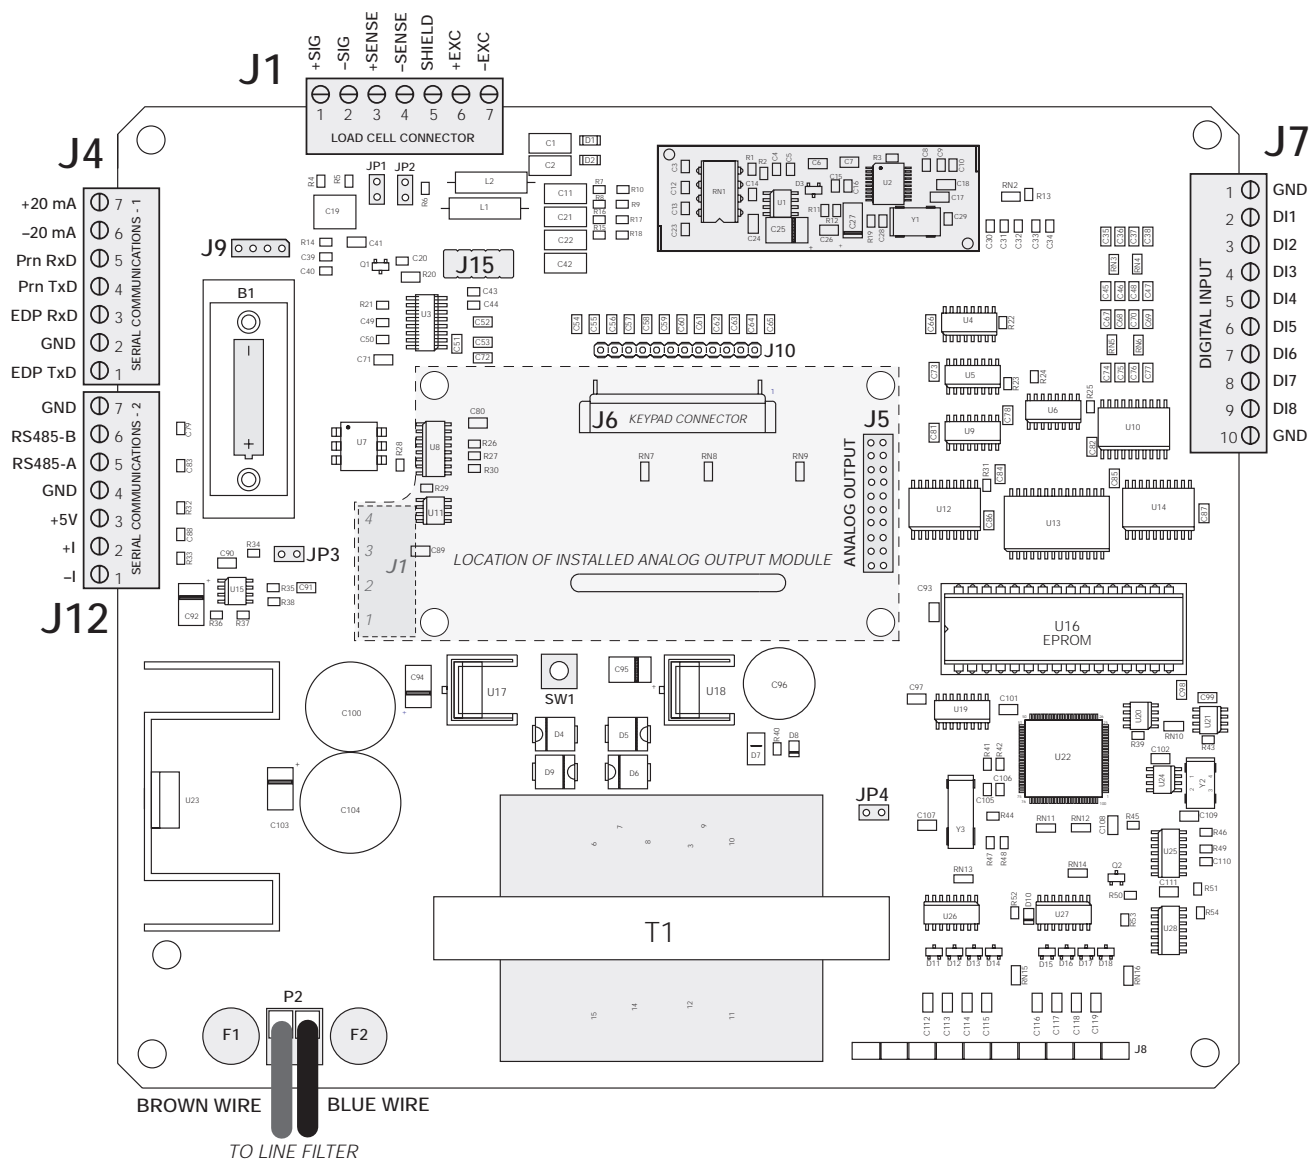

Figure 2-1. IQ plus 510 CPU and Power Supply Board, Rev. 2
To attach cable from a load cell or junction box, remove connector J1 from the board. The connector plugs into a header on the board (see Figure 2-1).
Wire the load cell cable from the load cell or junction box to connector J1 as shown in Table 2-1. If using 6-wire load cell cable (with sense wires), remove jumpers JP1 and JP2 before reinstalling connector J1 (see Figure 2-1). For 4-wire installation, leave jumpers JP1 and JP2 on.
Mount the analog output module on its standoffs in the location shown in Figure 2-1 on page 4 and plug the module input into connector J5 on the IQ plus 510 board. Connect output cable to the analog output module as shown in Table 2-4, then reassemble the enclosure (Section 2.5).
2. Unplug connectors J1 (load cell cable), J4 and J12 (serial communications), J7 (digital inputs), J6 (keypad ribbon cable), and JP4 (setup switch). If an analog output board is installed, disconnect the analog output cable. See Figure 2-1 on page 4 for connector locations.